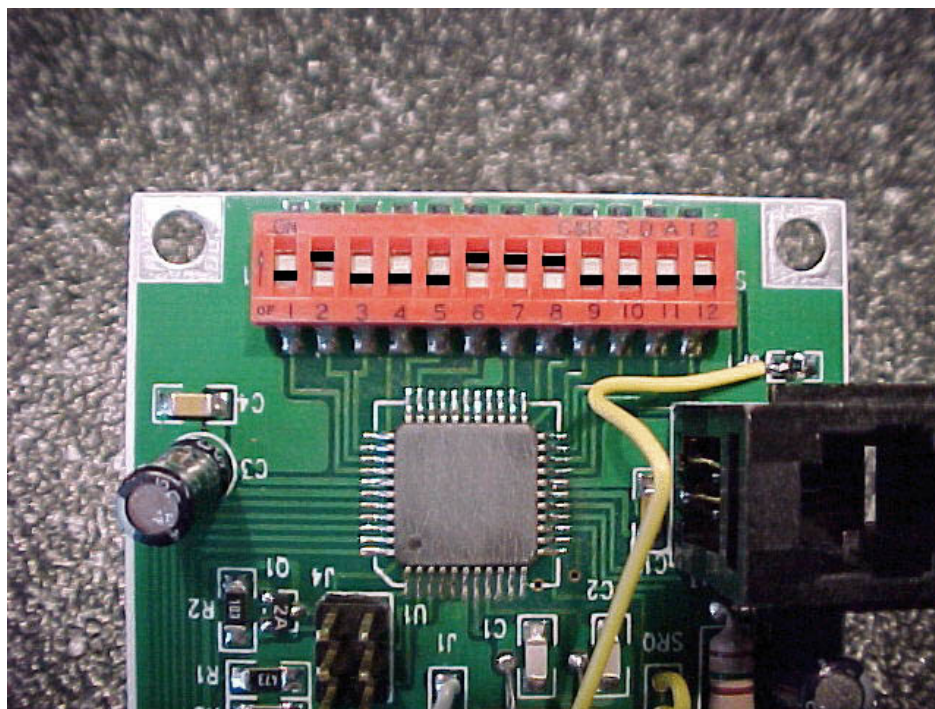

Figure 3.
5. Preset the dipswitches as shown in figure 3. This is the default setting and sets the CI-V and RS-232 port rates to 9600 baud, the transceiver mode off, smart band switching on and the radio address to 1C. Notice in the picture that the black highlight line shows the position of the switch trigger.